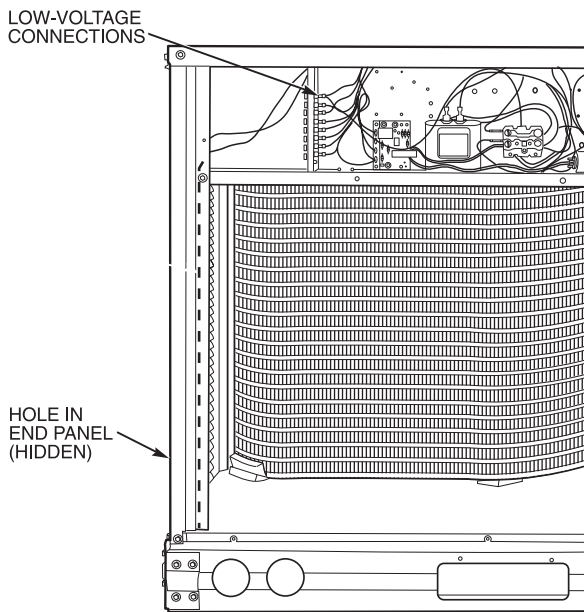

Fig. 11 – Field Control Wiring
2. Feed the control wires through one of the provided holes in control box. Some models may be equipped with a raceway built into the corner post located on the left side of control box (See Fig. 11.) This raceway provides the required clearance between high-voltage and low voltage wiring. For models without a raceway, ensure to provide the NEC required clearance between the high-voltage and low-voltage wiring.